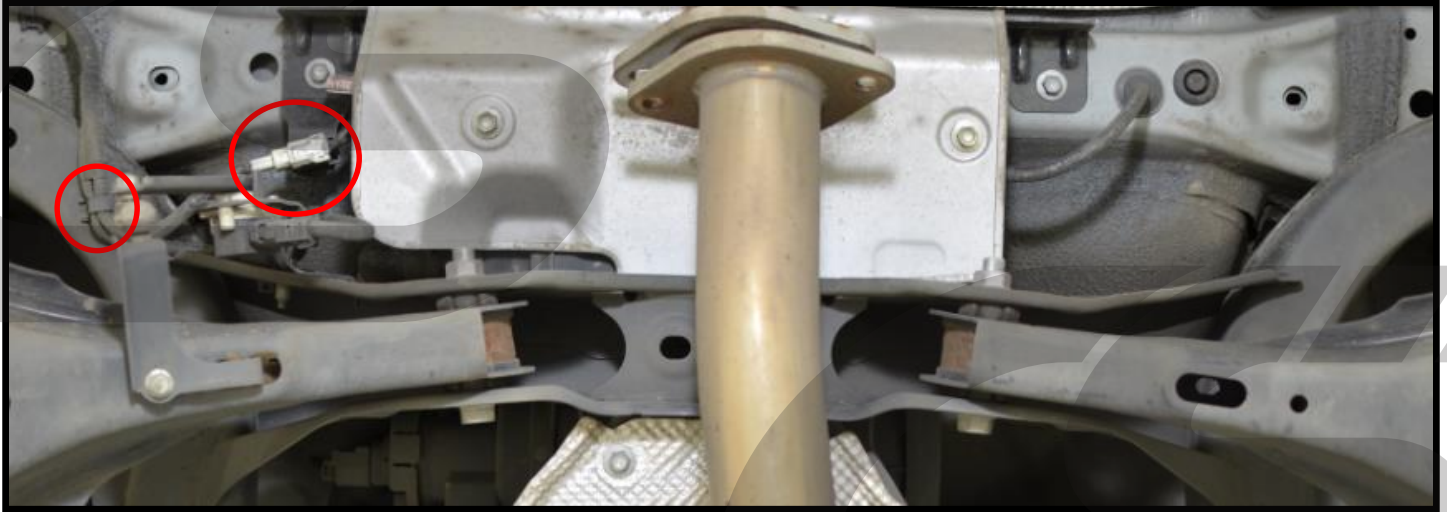

Figure 1f
f) **Disconnect the white electrical connector and wiring zip-tie circled in red in Figure 1f.** This will provide slack in the wiring harness to drop the sub-frame.
- Reinstall the wires removed in **Figure 1f**.